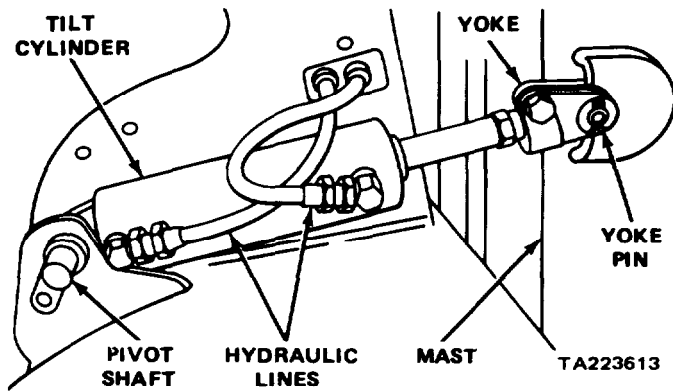

Figure 2-44.2. Tilt cylinder removal and installation.
a. Removal. Refer to figure 2-44.2 and remove tilt cylinder assemblies as follows:
(1) Operate the tilt control lever to put the mast in forward position. Hold the mast in forward position with a chain hoist.
(2) Remove the cotter pin and pull out the pin attaching the cylinder yoke to the carriage.
(3) Disconnect the hydraulic lines at the tilt cylinder.
(4) Remove the screw and pin retainer from the tilt cylinder rear mounting bracket and pivot shaft.
(5) Insert a drift in the hole (provided in the pivot shaft) and remove the pivot shaft. Lift the cylinder from the truck.